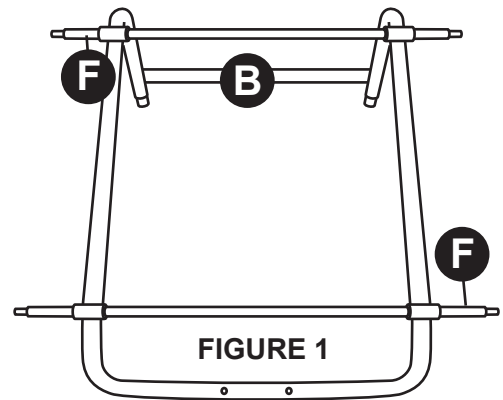

FIGURE 1
1. Turn Frame (B) on it's back. Insert Axle Rod (F) thru the axle bushing on the frame. Repeat. See Figure 1